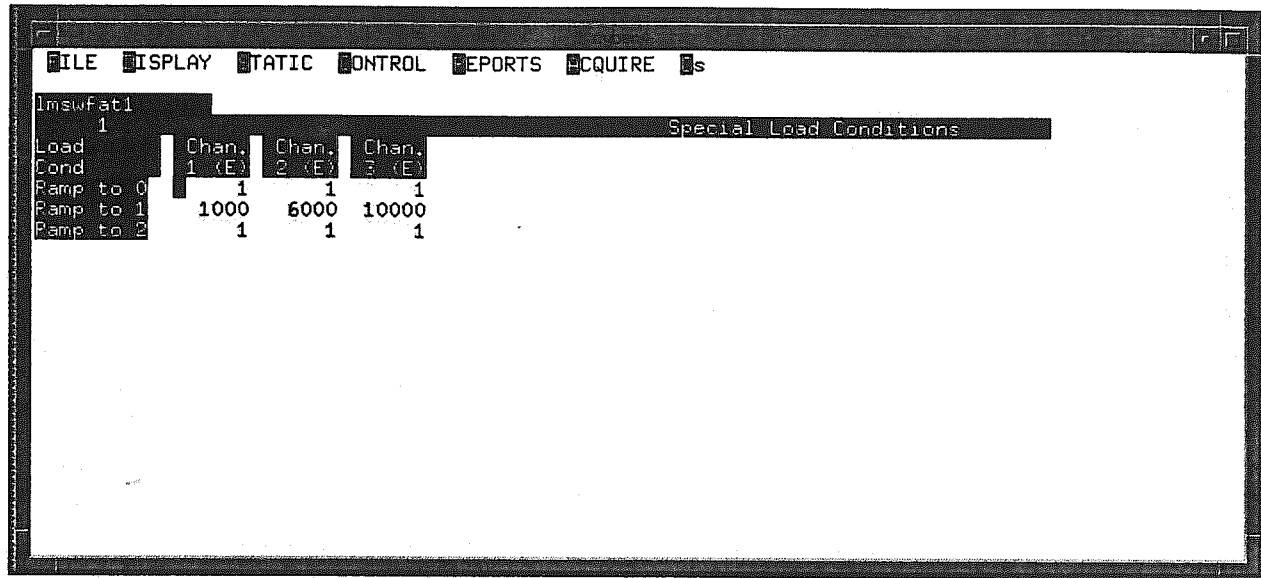

Figure 5-5. Special Load Conditions Screen
Step 2: Enter the number of the channel for which you want to enter a special load condition and select OK. The Special Load Conditions screen, Figure 5-5, is displayed.